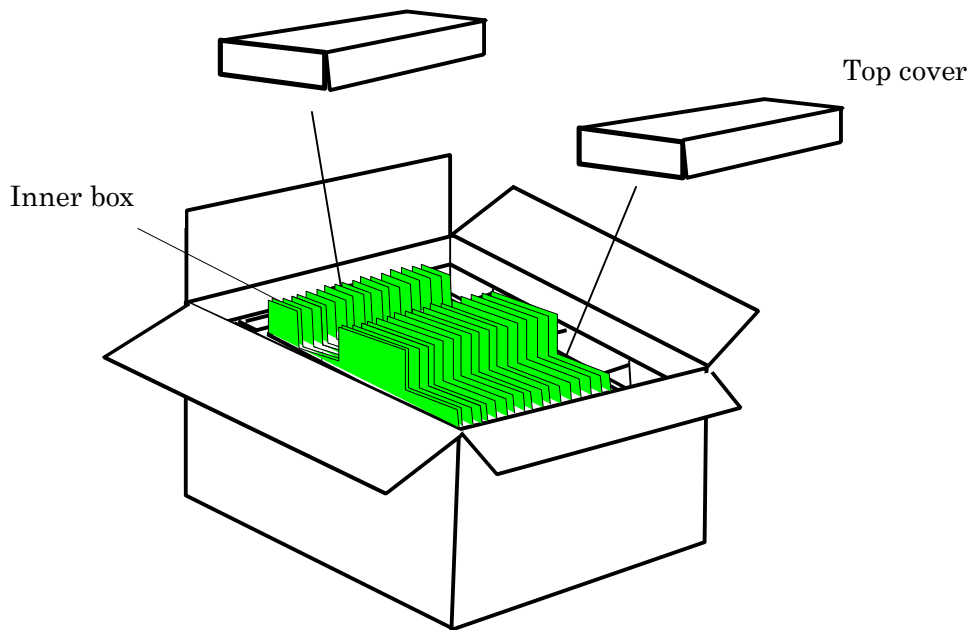

Fig. 9
- Upper protector is put on the products and shut the box.(Fig. 9)